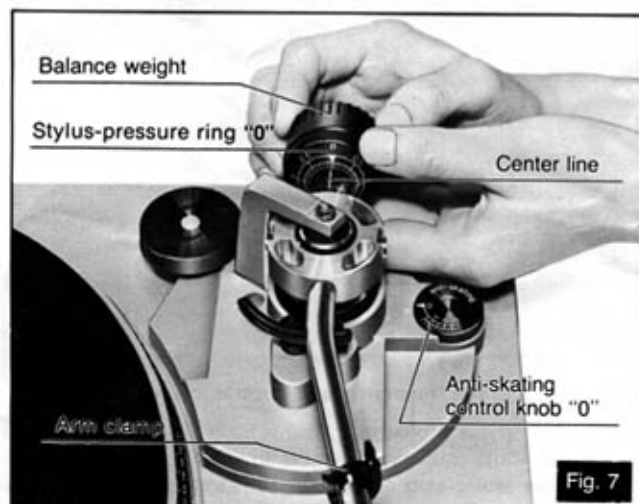

Fig. 7
The adjustment of the horizontal zero (0) balance is now completed. (See Fig. 7.)